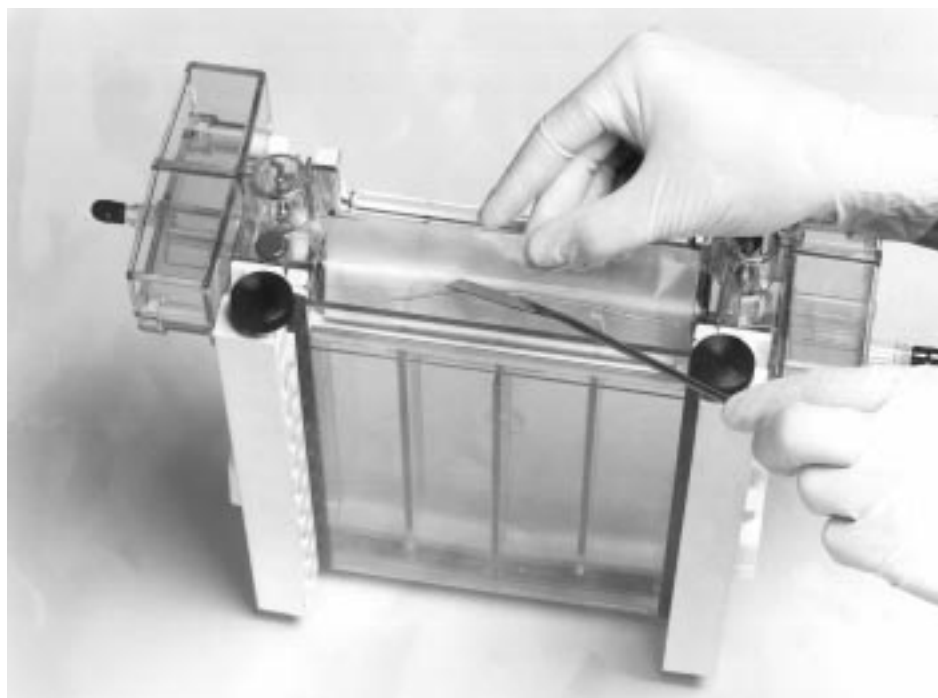

Fig. 3.4.
6. Using a spatula, immediately slide the capillary gel in between the glass plates onto the second dimension gel working from one end to the other (see Figure 3.4). Care must be taken to avoid entrapment of air bubbles between the two gels. Make sure that the entire length of the gel is in contact with the resolving gel.